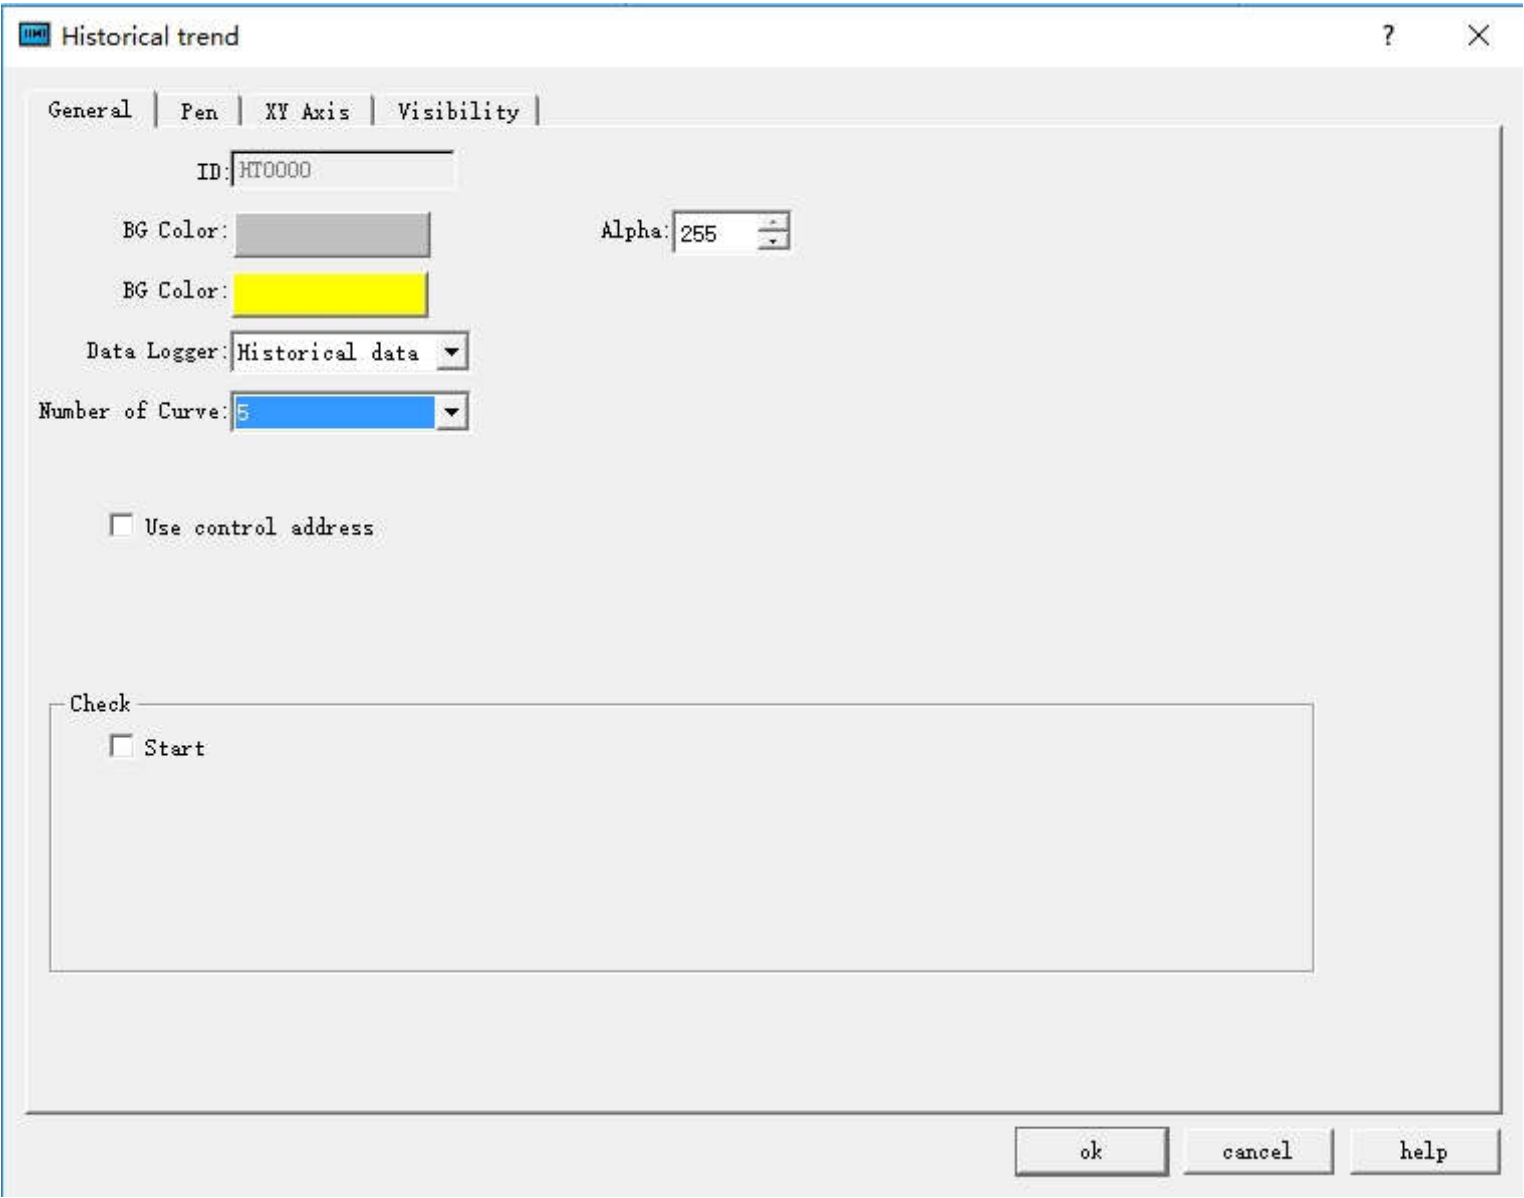

Figure 4-48 Historical Trend General page dialog box
1.Select the trend icon in the toolbar, the Historical Trend Property dialog box appears, as shown in Figure 4-48: